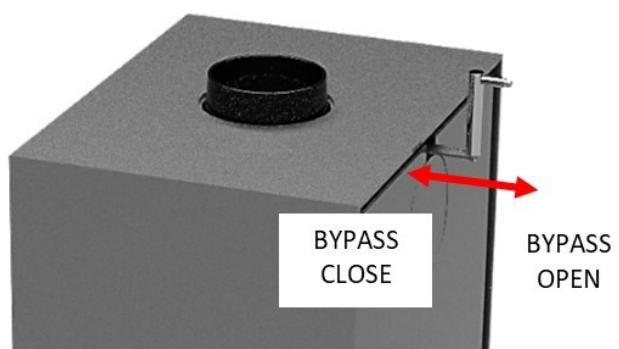

Fig. 13
- If your stove has the Catalytic Hybrid Woodbox System, open the bypass by sliding back the control located on the upper rear part of the stove (Fig. 13).